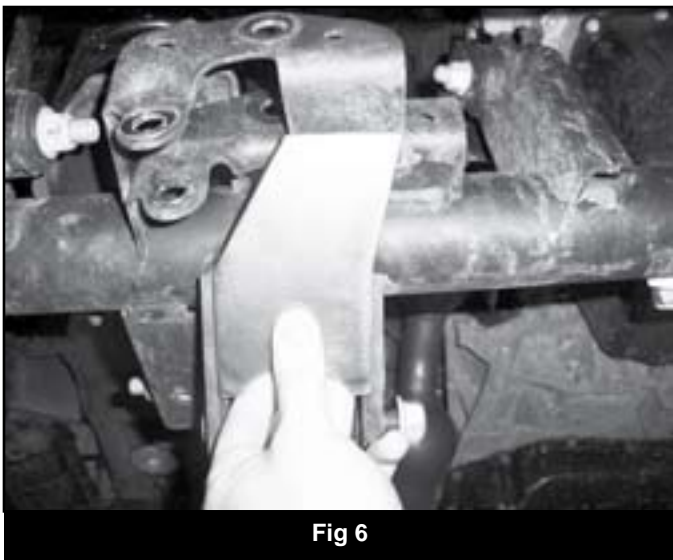

Fig 6
20. Position the new flat track bar mount gusset plate (01942) so that it spans the two passenger's LCA mounting plates and the narrow end butts up against the bottom side of the OE track bar mount. Note the areas to be welded, remove the gusset and remove paint from the areas to be welded (Fig 6). Reposition the gusset and weld in place. Allow all welds to cool and paint the entire area where there is any bare metal.